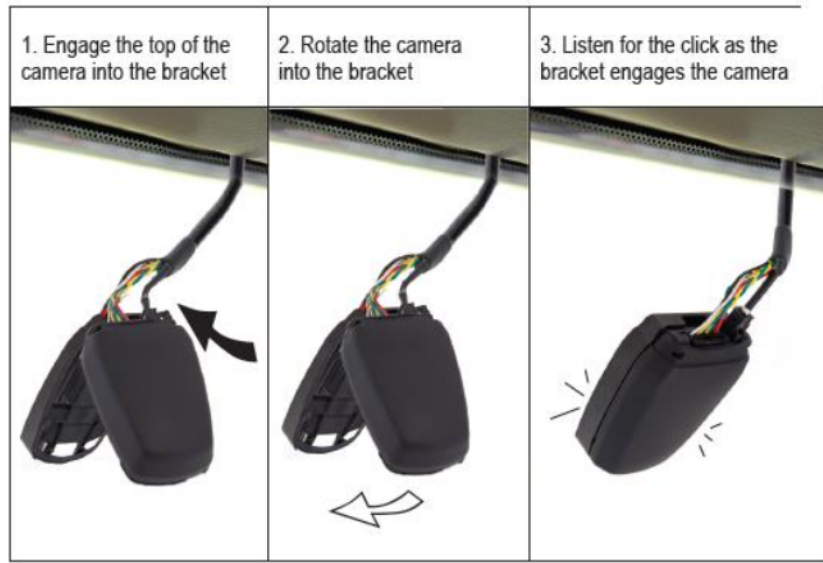

FIGURE 12 - CAMERA INSTALLATION
To install the camera into the bracket, See Figure 12.
4. **Double-check that the camera is fully engaged into the bracket, by verifying that the channel between them has the same gap all the way around. Pull gently on the camera to check that the tabs at the top and bottom are engaged and that there is no play. See Figure 12.**